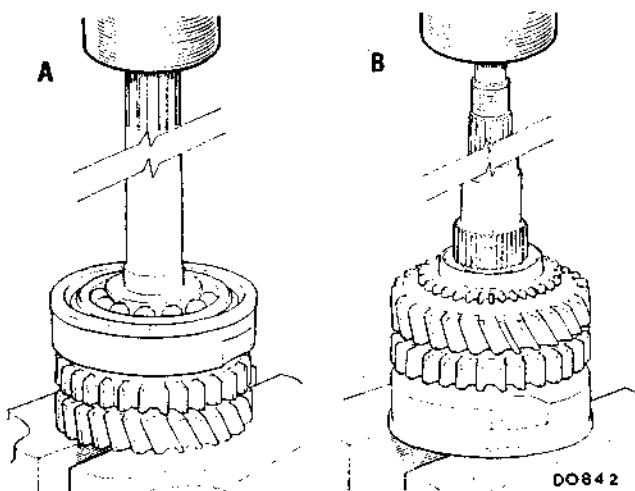

Fig. Fb.9
18. Press the first speed gear, reverse gear, and the bearing complete with housing from the shaft (see Fig. Fb.9).